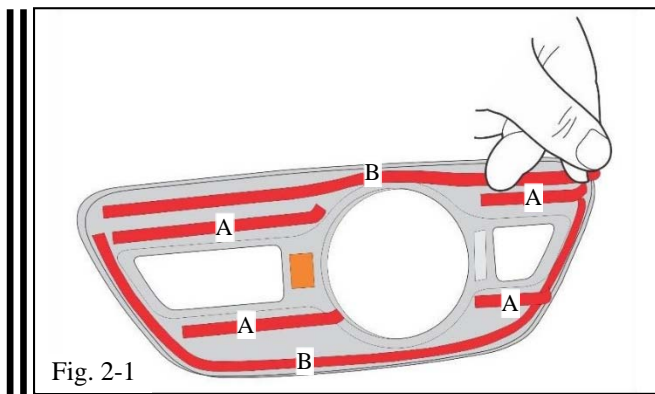

Fig. 2-1
- (b) Remove the 4 inner adhesive liners on the back of the part (A, Fig. 2-1).
- (e) Peel the 2 outer adhesive liners (B, Fig. 2-1).